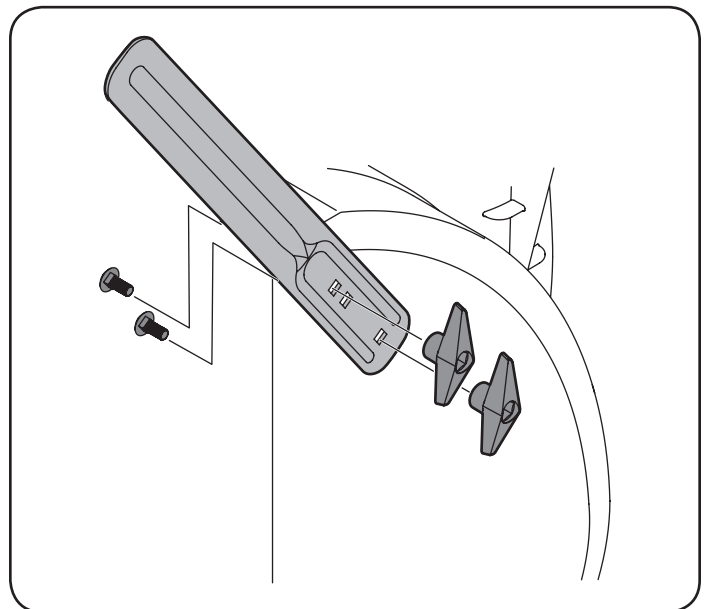

Figure 13
3. Attach the drift cutters with the screws and wing knobs removed earlier. See Figure 13.